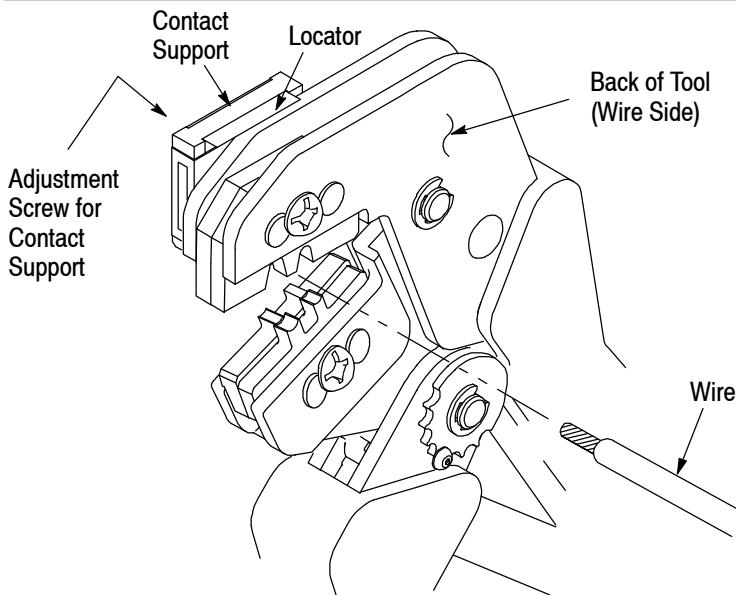

Figure 3
4. CONTACT SUPPORT ADJUSTMENT (Figure 3)
Refer to the table in Figure 1 and select wire of the specified size and insulation diameter. Strip the wire to the length indicated in Figure 1, taking care not to nick or cut wire strands. Select an applicable contact and identify the appropriate crimp section according to the wire size markings on the tool. Refer to Figure 3 and proceed as follows:
3. Position the contact so that the mating end of the contact is on the locator side of the tool, and so that the open "U" of the wire and insulation barrels must face the top of the tool. Place the contact up into the nest so that the movable locator drops into the slot in the contact. Refer to Figure 3. Butt the front end of the wire barrel against the movable locator.
6. Insert stripped wire into contact insulation and wire barrels until it is butted against the wire stop, as shown in Figure 3.
The crimped contact may stick in the crimping area, but the contact can be easily removed by pushing downward on the top of the locator (see Figure 3).